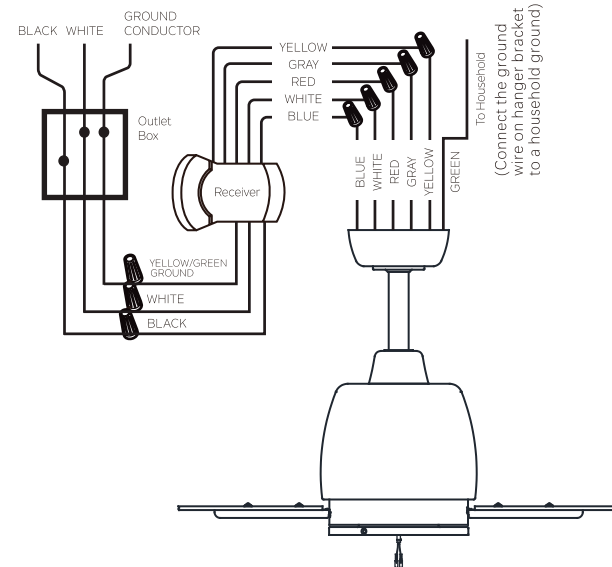

Fig. 13
Make each of the wire connections illustrated in Figure 13. Secure each with the wire nuts provided.
Step 1. Connect the Blue wire from the fan (motor) to the Blue wire from the receiver. White wire from the fan (motor) to the White wire from the receiver. Red wire from the fan (motor) to the Red wire from the receiver. Gray wire from the fan (motor) to the Gray wire from the receiver. Yellow wire from the fan (motor) to the Yellow wire from the receiver. (Fig13)
Step 1. The black wire of the receiver (AC IN L) connects to the black wire (HOT) of the ceiling outlet box (Fig 13).